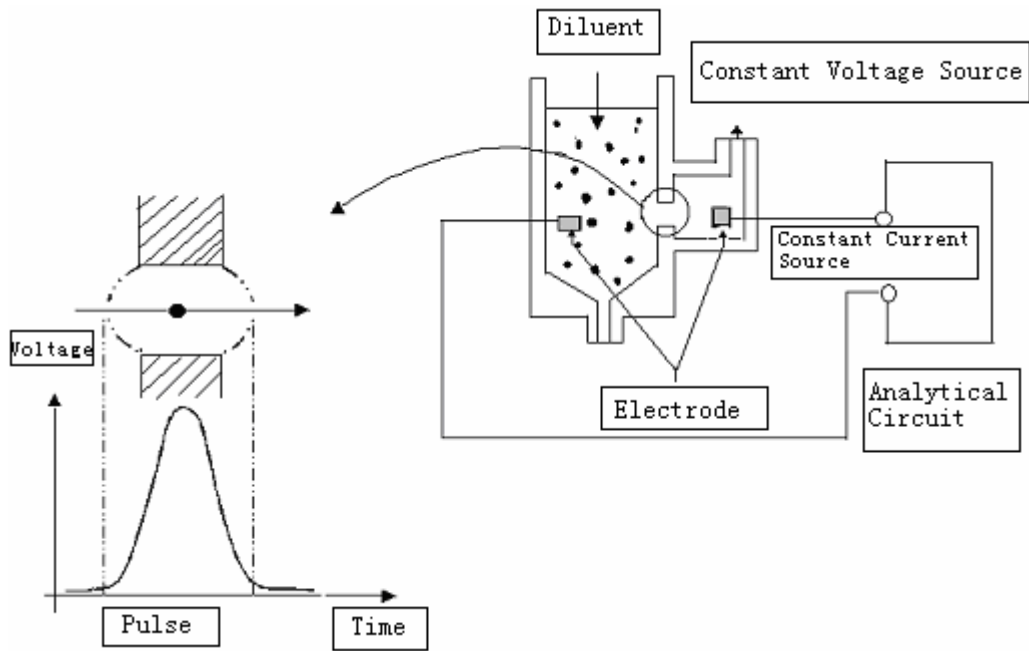

Figure 1-4
- c) When cells pass through the aperture, the resistance between the electrodes increases as the cell volume increasing, as shown in figure 1-4. According to the Ohm Formulary: $U=RI$ (U =Voltage I =Current R =Resistance). If I is a constant, U increases as the cell volume increasing.
- d) Passing through the magnification circuit, the voltage signal will be magnified and the noise will be filtered, then you will gain the analytical results, as shown in figure 1-4.